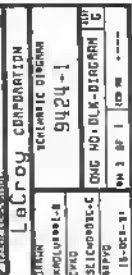

FIG.2 : CHANNEL BLOCK DIAGRAM
2) Channel description (see fig.2)